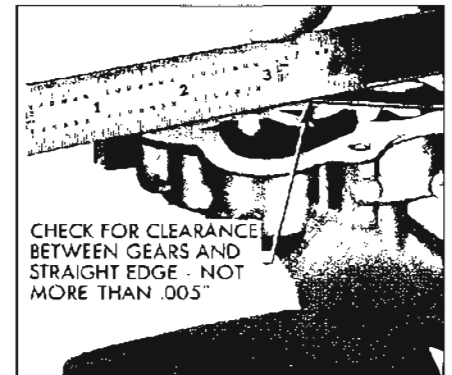

Figure 2-38—Checking Clearance of Gears at Cover
6. Check for clearance between gears and cover by using a straight edge as shown in Figure 2-38.